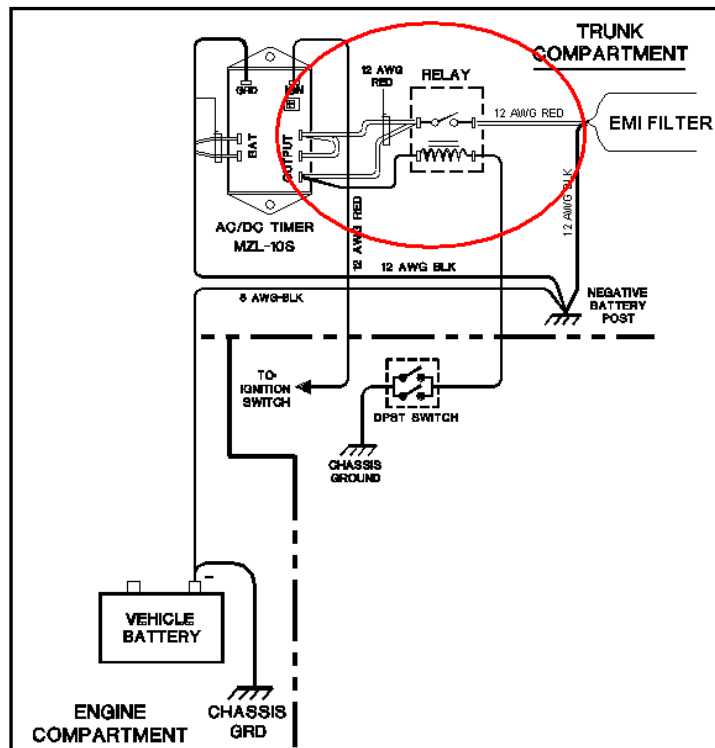

Figure 14: Carling Switch Installation
- Step 2** Route and wire a red wire (#12 AWG) from the switch to the Automotive Power Relay (see Figure 14).